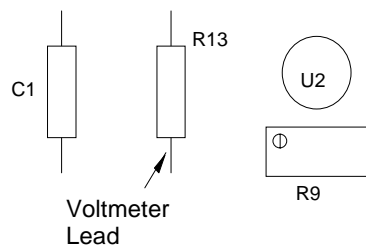

FIGURE 7-3. DETECTOR ADJUSTMENT
10. Refer to Table 3-1, Figure 3-2 and Figure 7-3. Connect a digital voltmeter (four digit resolution) from the slider of Coarse Zero potentiometer (R9) to chassis ground. With a steady flow of 50 to 500 cc/min. of nitrogen gas passing through the instrument, adjust Coarse Zero (R9) for zero volts.